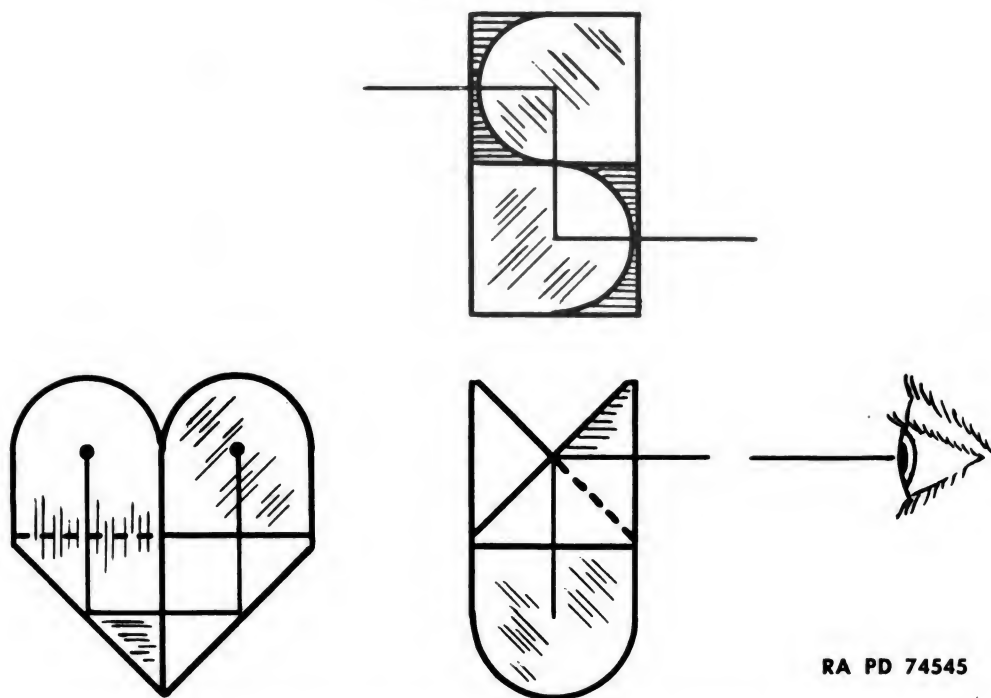

Figure 11—Direction of Ray of Light Through Abbe Prisms
(2) The abbe prism assembly is supported on a raised seat integral with the telescope body and is held in position by a pad A48691 and spring B137239. The direction of the ray of light through the prisms is shown in figure 11.